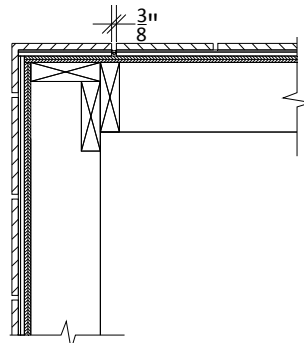

Fig. 2 - Outside Corner
1. Work should begin with installation of pre-fabricated corner panels or with standard panels that will butt or miter into the corners. This is typically the most visual location and the corners should not be cut unless absolutely necessary. Refer to fig. 2,3,4 for corner detail.